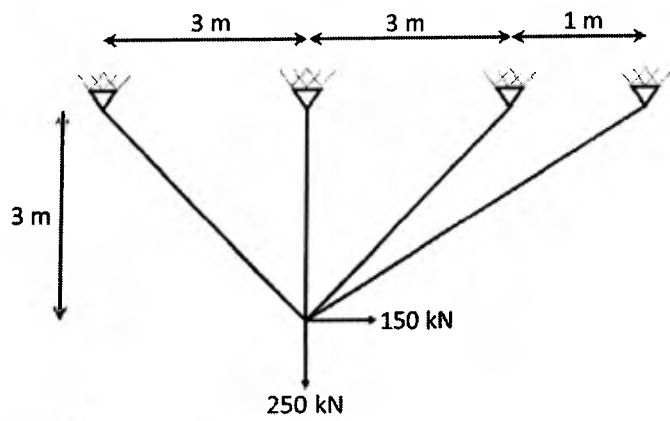

Figure 1
- Q.2 Determine the member forces and reactions developed for the truss as shown in figure 1. Take modulus of elasticity as 210 GPa and area of cross-section of all members as 1000 mm². [20]